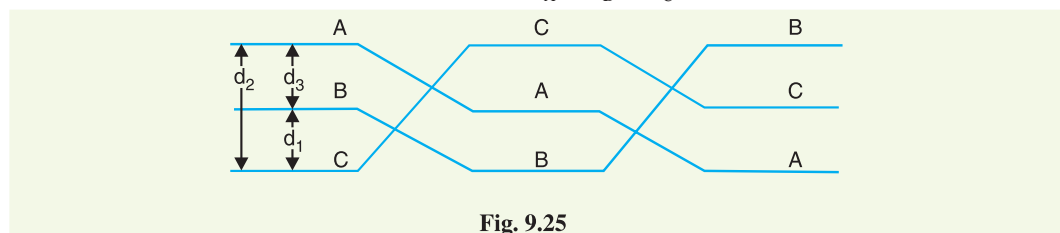

Fig. 9.25
**(ii) Unsymmetrical spacing.** Fig. 9.25 shows a 3-phase transposed line having unsymmetrical spacing. Let us assume balanced conditions i.e.  $Q_A + Q_B + Q_C = 0$ .